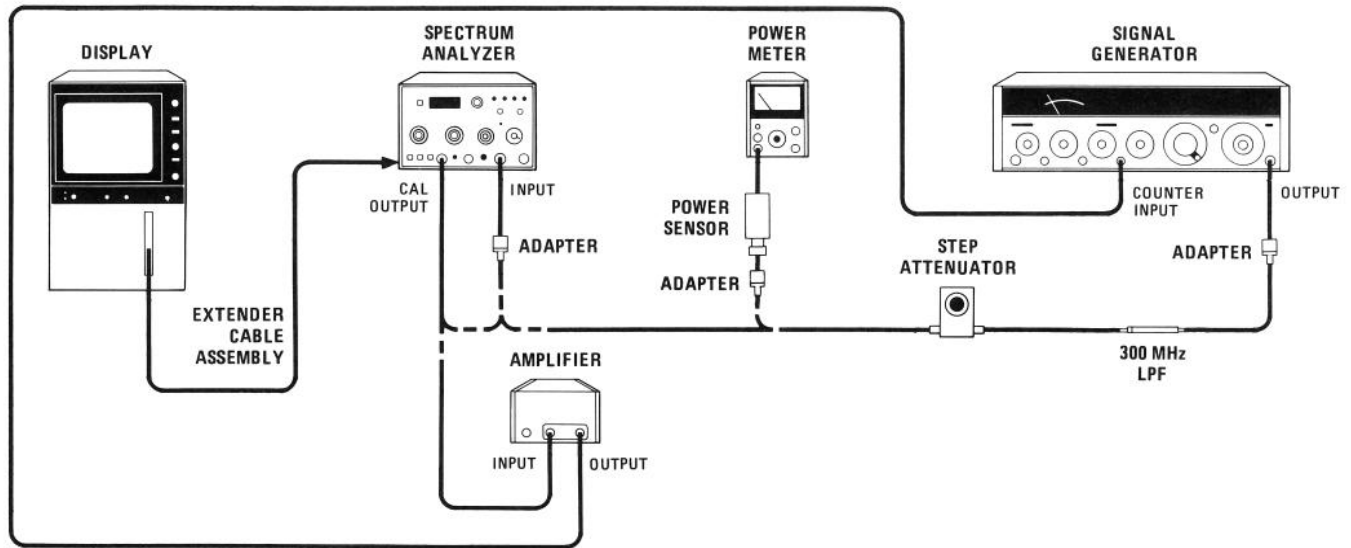

FIGURE 5-3. THIRD CONVERTER LO AND CAL OUTPUT ADJUSTMENT TEST SETUP
2. Connect equipment as shown in Figure 5-3. Connect CAL OUTPUT to INPUT 50Ω connector.
7. Connect power sensor and power meter to step attenuator as shown in Figure 5-3.